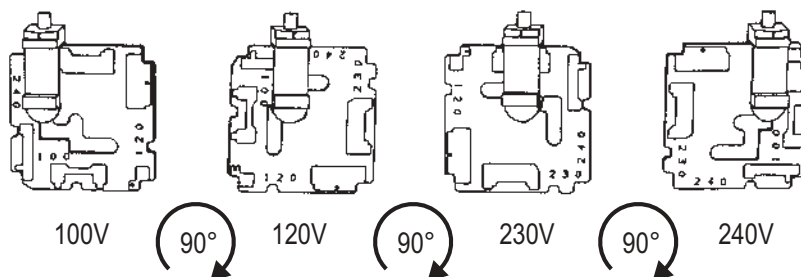

Figure 5. Voltage selector card positions.
- Orient the selector card so that the desired input voltage is readable at the bottom, shown in Figure 5. Then move the indicator pin to point UP, opposite the indicated voltage. Seat the pin assembly in the notch on the board edge.